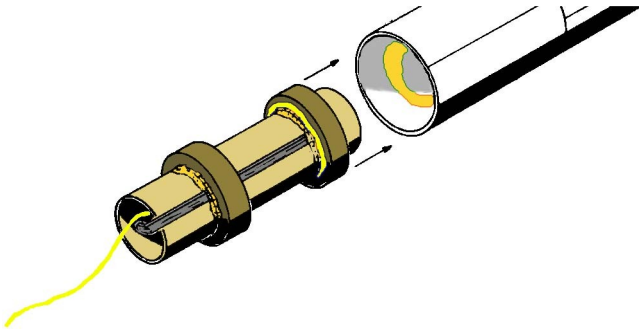

Figure 8
- **Step 18** Push the Kevlar thread down through the center of the EM-710 mount from the front and pull tight. Apply a bead of full-strength glue inside the body tube at the rear, about 1.5" up, as shown in Fig. 8. Insert the front end of the mount into the bottom of the body tube and push forward with a smooth, continuous motion until the bottom of the motor tube is even with the bottom of the body tube. Do not stop during this process, or the mount will 'freeze' in the wrong place. Allow to dry.